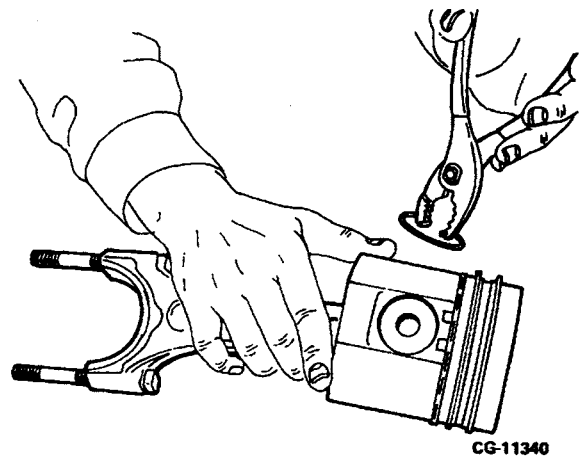

Figure 6.13. Remove Piston Pin Retaining
1. Using pliers, remove the two piston retaining rings. Refer to Figure 6.13.